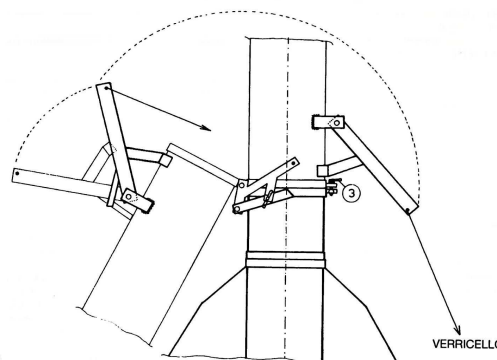

FIG 3B
step three: Using the vertical auger winch (beside the control cabinet) **raise** the folding auger into its vertical position. Once the auger is correctly positioned climb the ladder and tighten up the wing nut item 3 in fig 3B.
step one: The top section of vertical auger will be supplied loose because of transport height restrictions. The section of auger must first be lifted and connected to the main vertical auger tube using the pivot pin supplied. Then connect the vertical auger winch wire to the top section vertical auger tube. Using the vertical auger winch (mounted at the front of the machine) **raise** the folding auger into its vertical position. Once the auger is correctly positioned climb the ladder and tighten up the wing nut item 3 in fig 3B.
First Step: To start the lowering of the top auger extension pull the wire that is positioned at the rear of the dryer and has at its end a triangle steel pull handle. Important you must undo the wing nut item 3 in fig 3b first and loosen the vertical auger winch 3-4 rotations.